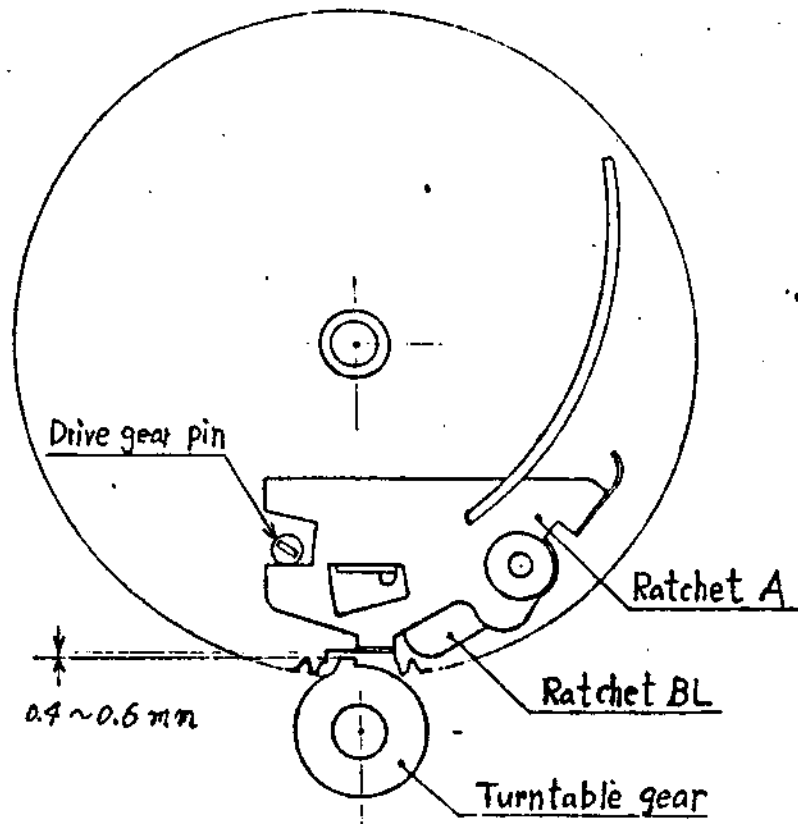

Fig. 6
### 5. Positioning of ratchet A and turntable gear (fig.6)
- (1) Make sure the correct position of ratchet A and turntable gear with the fig.6 as a guide.
- (2) If the gap between ratchet A and turntable gear is not within 0.4 - 0.6mm, adjust by turning the drive gear pin (6).
- No: Adjust the gap between ratchet A and turntable gear by turning the drive gear pin (fig.6).